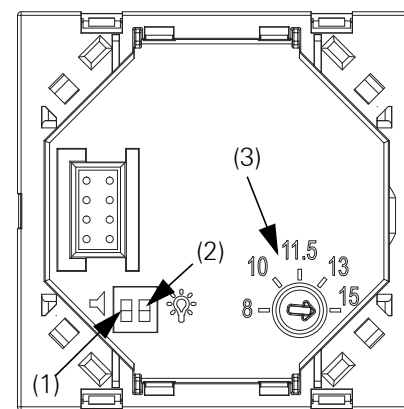

Fig. 4: Device top unit (rear)
- Before the device top unit with the frame is applied to the flush-mounted insert, carry out settings to the measuring module (on the device top unit) if required. See the 'Settings' section, figure 4.
To carry out settings to the device the top unit must be pulled out of the flush-mounted insert. Setting possibilities are then located on the rear of the device top unit. See figure 4.